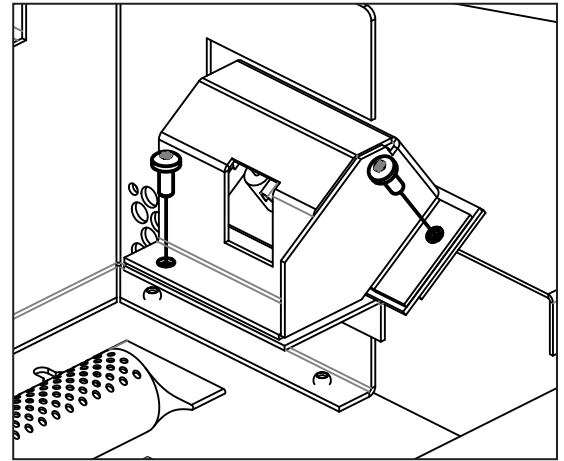

Figure 23: Pilot Shield Removal
4. Remove the pilot cover from the pilot assembly (see Figure 23).